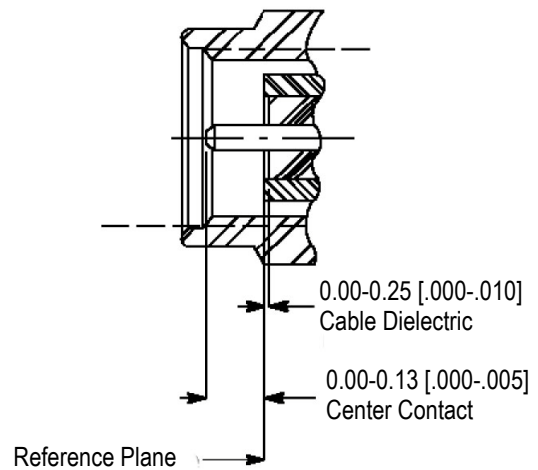

Figure 6
13. Adherence to the assembly procedure should yield the tolerances shown in Figure 6.